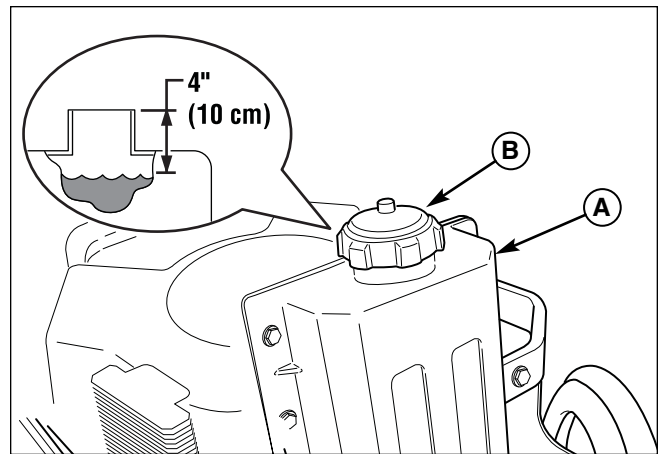

Figure 20. Checking Hydraulic Oil Level
2. Unscrew the reservoir cap (B, Figure 20).
3. Look down the filler neck of the hydraulic oil reservoir (A, Figure 20) and observe the oil level. When cold, the oil level should be approximately 4" (10 cm) below top of the filler neck.